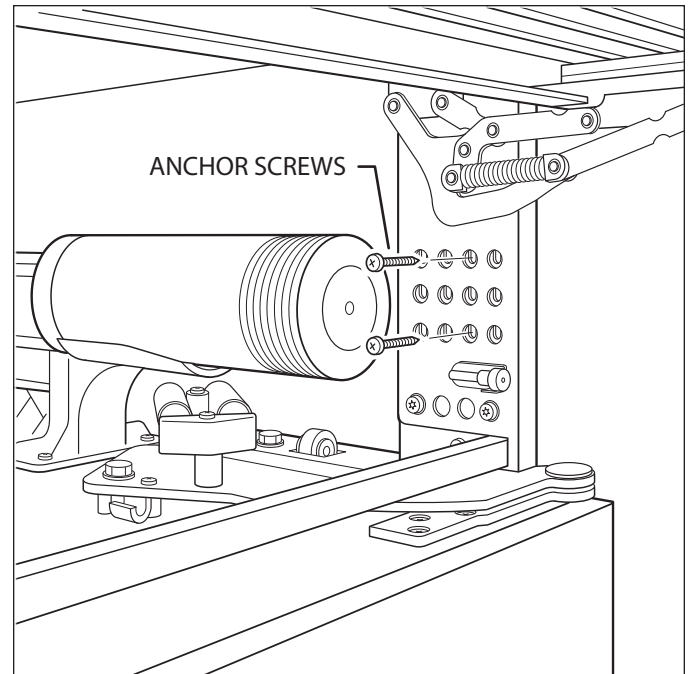

Figure 2-22. Anchoring at Top of Unit
1. Open the grille, then install anchor screws through the grille frame clearance holes and the grill frame support brackets into the cabinetry (See Figure 2-22). There are several hole locations provided.